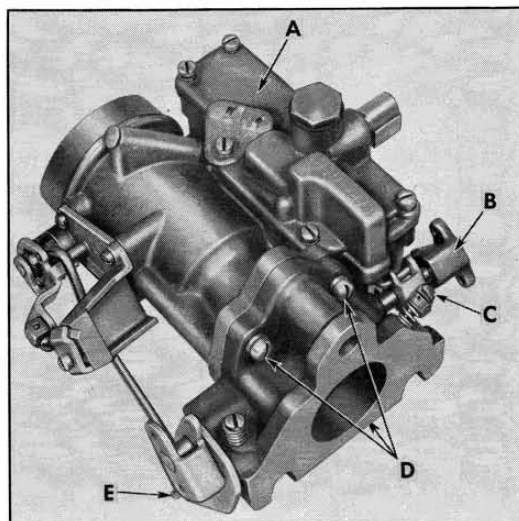

Fig. 3
1. Remove six screws retaining bowl cover and screen assembly and remove assembly "A" (fig. 3).